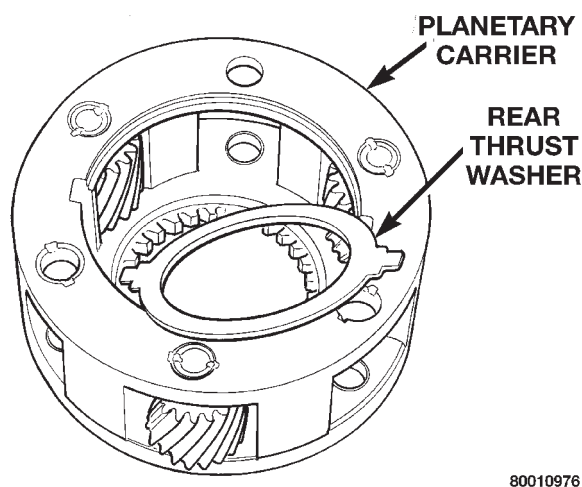

Fig. 35 Rear Thrust washer Removal
(8) Remove rear thrust washer from carrier (Fig. 35).